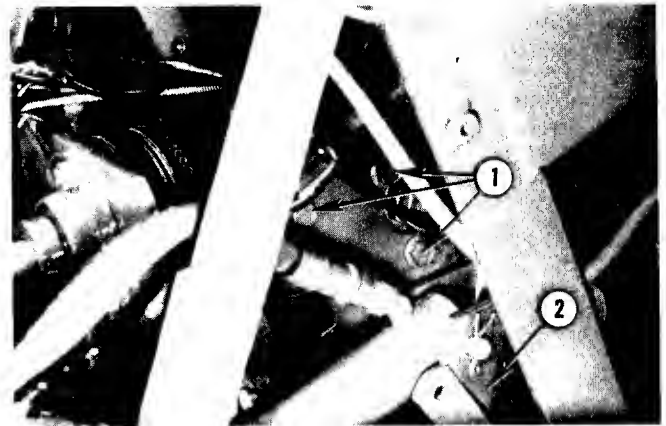

FIG. 2.1 — STEERING GEAR LOCATION
9. Disconnect hydraulic cylinder bracket and lower cylinder down as far as possible. Fig. 2.1.
1. Position steering gear assembly in place and secure with retaining bolts. Figs. 2.1 & 2.2.